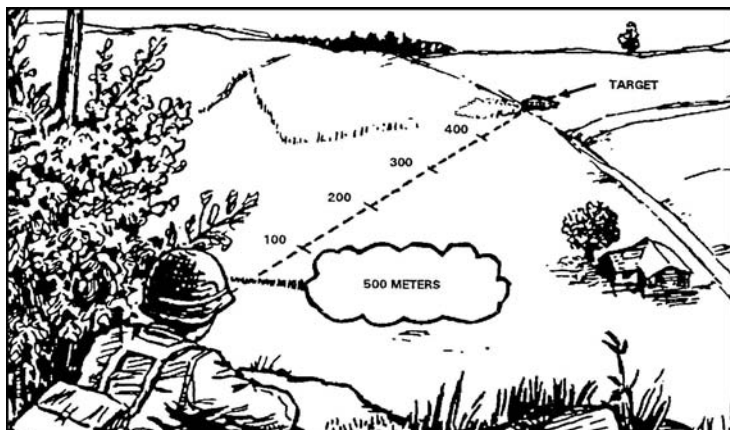

Figure 071-311-2130-1. Range estimation
3. Determine the range to the target (figure 071-311-2130-1).